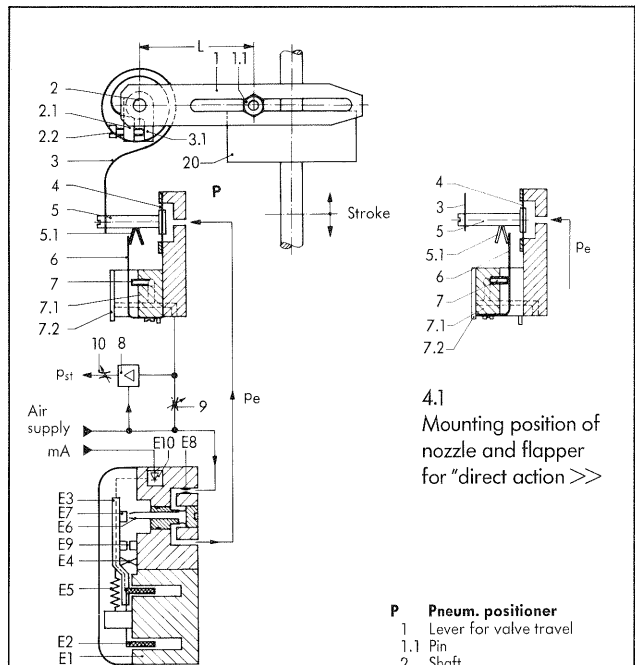

Fig. 4 · Schematic of the positioner
Principle of operation (Fig. 4 and 5)
For an increase of the input (i) the output pressure (p_{st}) may increase (direct action >>) or decrease (reverse action <<). The operating direction is dependent on the mounting position of the nozzle block (7.1) and the flapper (6). In the mounting position shown in Fig. 4, the operating direction is "reverse" and the type of action is indicated by the symbol <> on the nozzle block (7.1). Fig. 4.1 shows the mounting position for direct action (i and p_{st} increasing). Accordingly, the symbol >> is visible on the nozzle block.
Lever length L (Fig. 4) · Standard version with lever I